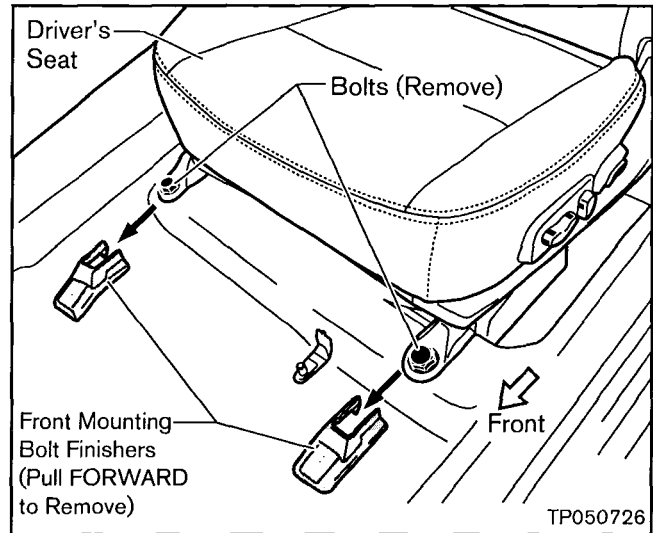

Figure 3
- d. Remove the front mounting bolt finishers (see Figure 3).
- e. Remove the front mounting bolts (see Figure 3).